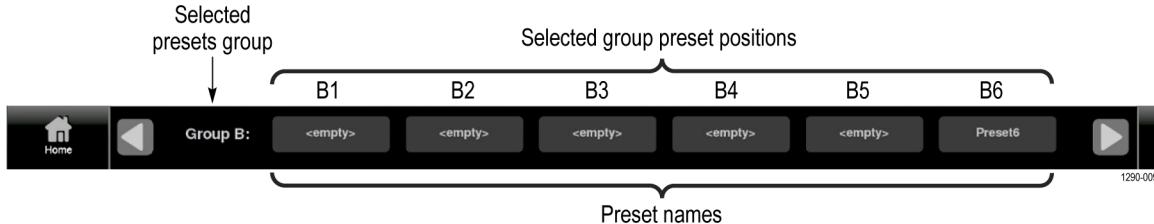

Figure 51: Preset selection controls (Group B shown)
- e. When you select **OK**, the preset name changes from **<empty>** to **Preset<number>**, where the number is the preset position within the preset group. (See Figure 51.)